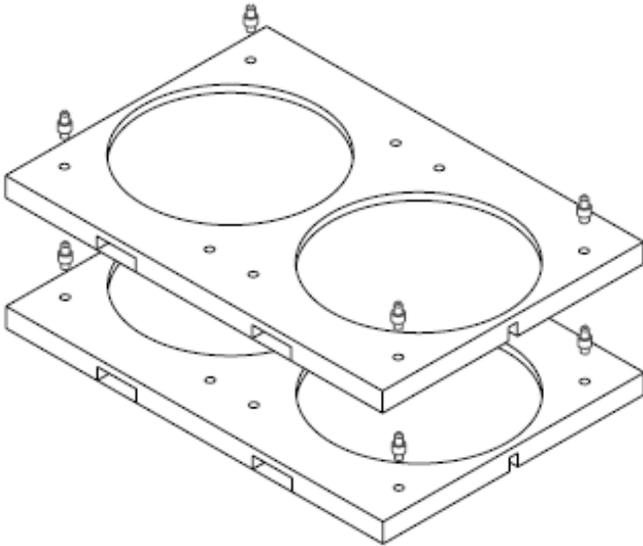

Figure 2: Stacking Tool Arrangement
- [A] Ensure pallet stacking tools are in all four corners of the facility pallet as shown on Attachment 1, Figure 2.